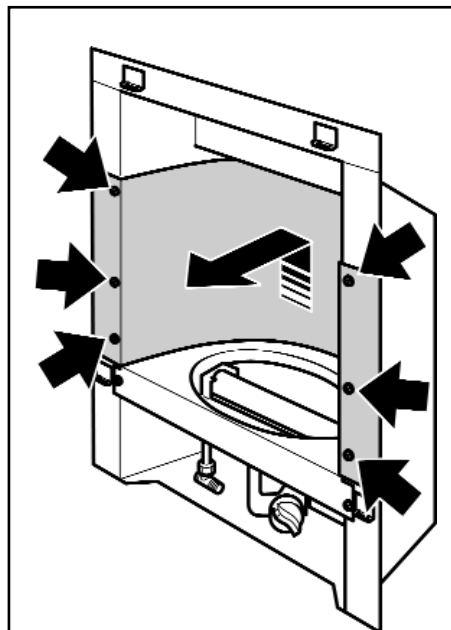

Figure 10. Removal of inner reflector
3. Remove the six screws from the side of the inner reflector (See figure 10).
4. Carefully lift the inner reflector and pull forward to remove. **Be careful not to scratch the top surface of the burner cover (See figure 10). The reflector may 'spring' a little. For this reason it is important to hold the edges firmly when removing.**